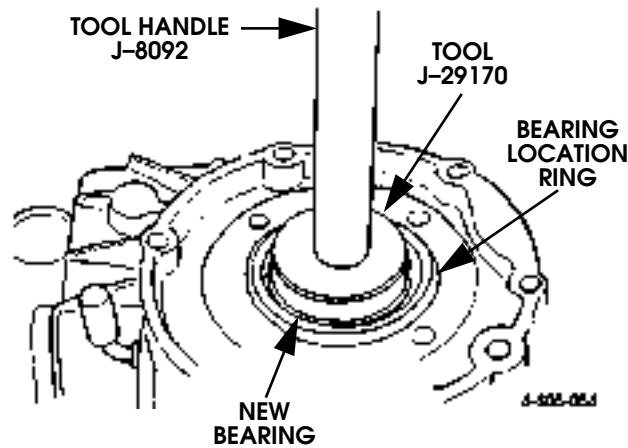

Figure 5-123: Input Gear Bearing Installation
2. Install new bearing using tool handle J-8092 and tool J-29170 (Figure 5-123). Seat bearing so locating ring is firmly seated against case.